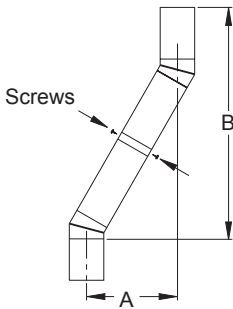

Figure 9 - Elbow Offset
Continue to assemble chimney sections as outlined, making sure that both the inner and outer pipe sections are locked together. When installing double wall snap-lock chimney together, it is important to assure the joint between the chimney sections is locked. Check by pulling chimney upward after locking. The chimney will not come apart if properly locked. It is not necessary to add screws to keep the chimney together (exception - see Figure 9, page 8).
- All pipe connections between the offset and return must be secured with two screws on the outer pipe only (see Figure 9, page 8). Do not penetrate the inner stainless.